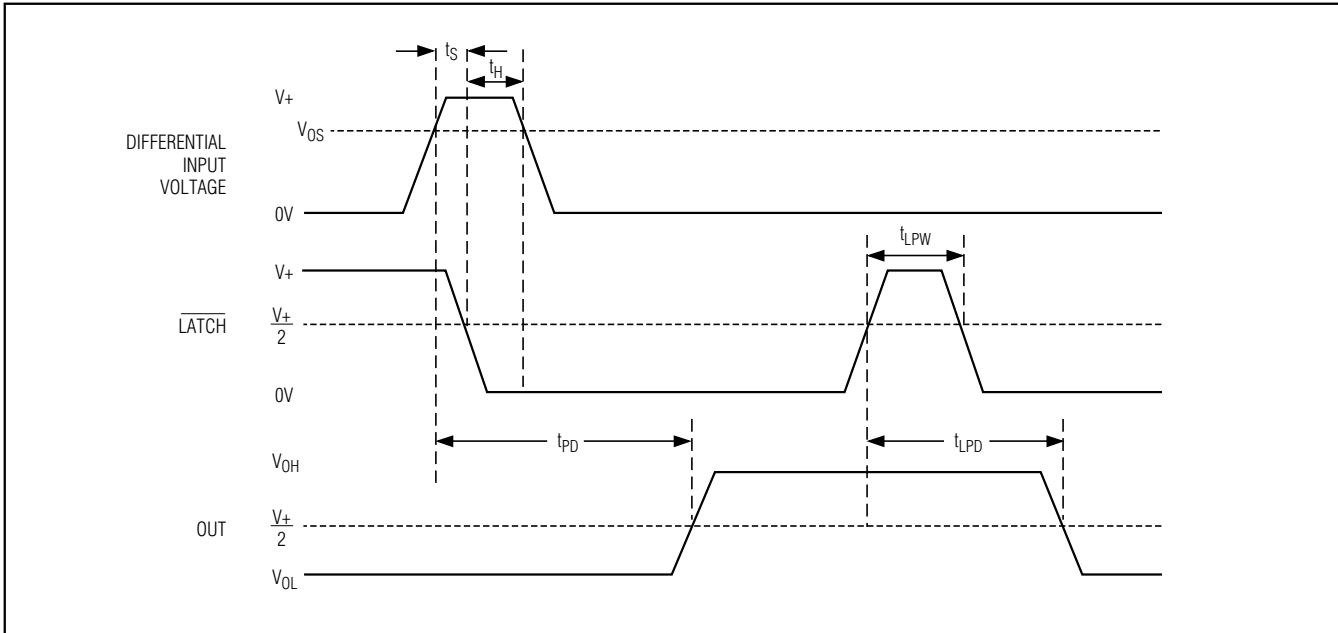

Figure 2. MAX941 Timing Diagram with Latch Operator
- Note 8:** Parameter is guaranteed by design and specified with V_{OD} = 5mV and C_{LOAD} = 15pF in parallel with 400μA of sink or source current. V_{OS} is added to the overdrive voltage for low values of overdrive (see Figure 2).
- Note 12:** Applies to the MAX941 only. Comparator is active with $\overline{\text{LATCH}}$ pin driven high and is latched with $\overline{\text{LATCH}}$ pin driven low (see Figure 2).
The MAX941 includes an internal latch that allows storage of comparison results. The LATCH pin has a high input impedance. If LATCH is high, the latch is transparent (i.e., the comparator operates as though the latch is not present). The comparator's output state is stored when LATCH is pulled low. All timing constraints must be met when using the latch function (Figure 2).